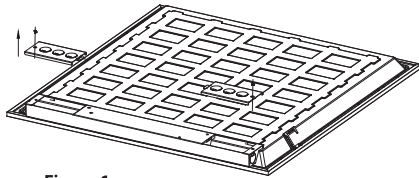

Figure 1
3. Unscrew driver cover and remove knockouts to wire power supply properly. (Fig1)
1. Remove accessories from the package carefully. Put together the four-piece of drywall flange kits by using the supplied ST3.12 Wafer Head Self Tapping Screws . (Fig 1)